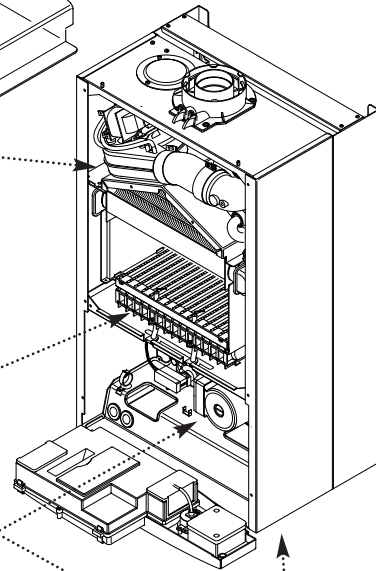

Fig. 44
13. Undo the screws securing the burner to the injector manifold. Draw the burner out of the combustion box, pulling the electrode grommets from the slots in the combustion box lower panel (Fig. 44).
14. Disconnect the electrode leads and grommets from the electrodes. Completely remove the burner (Fig. 44).